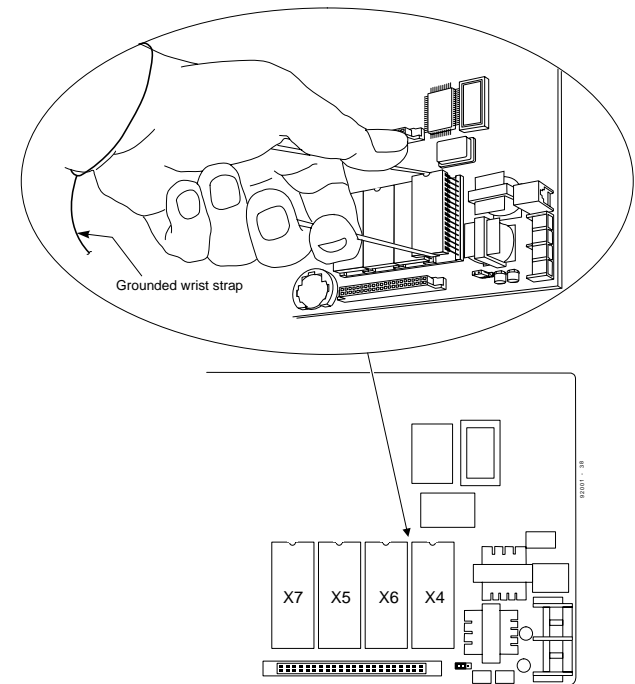

Figure 2-8 CPRU EPROM REMOVAL
### Upgrading CPRU Firmware (Figure 2-8, 2-9)
3. Lay the CPRU PCB on a flat, anti-static surface oriented as shown in Figure 2-8.